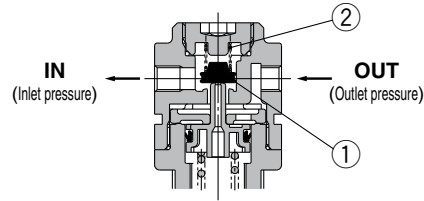

Figure 2
When the inlet pressure is higher than the regulating pressure, the check valve operates as a normal regulator (Figure 1). When the inlet pressure is shut off and exhausted, any inlet pressure applied to the valve ① will be lost. The force for seating the valve ① is the valve spring force ② only. When the valve ① is opened using the outlet force, the outlet pressure will be exhausted at the inlet side (Figure 2). When the set pressure is 22 psi (0.15 MPa) or less, the valve ① may not open due to the valve spring ② force.